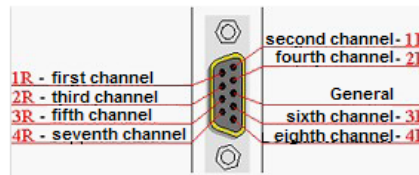

Figure 5.3-1 Pinout of a sound port of FS8 card
** FS8 video capture card allows capturing 16 audio channels with digitization quality up to 32 kHz. Eight right (#1) channels are used to connect to external DB9-M slot (Figure 5.3-1).